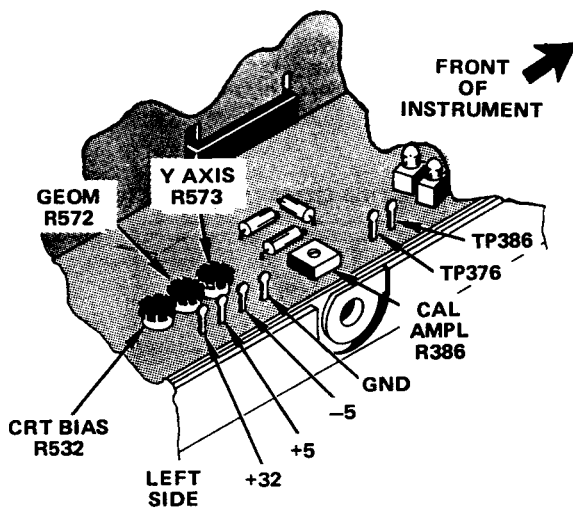
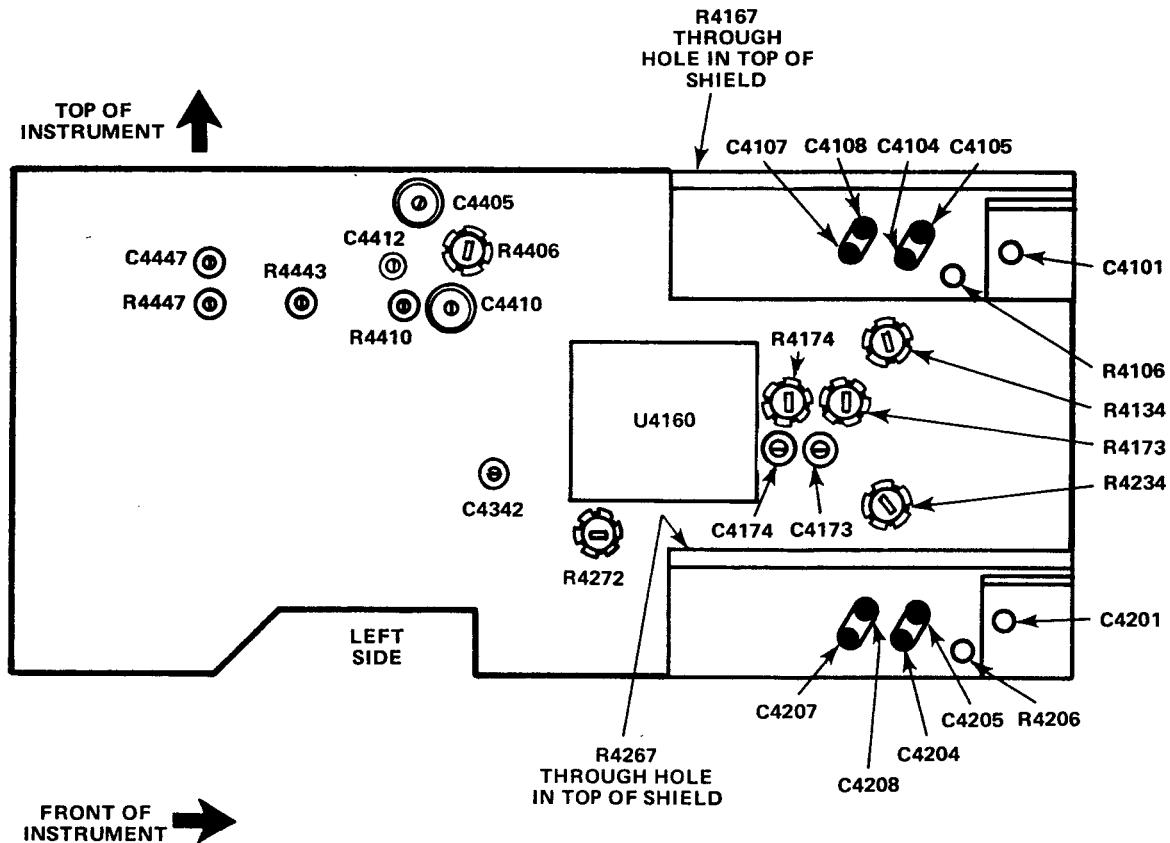

Figure 5-18. Crt and Calibration test point and adjustment locations.
Figure 5-19. Vertical adjustment locations.
(2) Set INTEN for a low intensity display.
(3) Connect a test oscilloscope between TP527 and GND with a 10X probe. Set test oscilloscope TIME/DIV for 2  $\mu$ s, adjust for a four division, positive going pulse display, and reset test oscilloscope TIME/DIV to 1  $\mu$ s.
(4) Adjust C515 and C516 for the squarest front corner on the displayed pulse.
(5) Disconnect the test oscilloscope.
**e. Y-Axis Alignment (Figure 5-18).**
(1) Set A AND B TIME/DIV to 1 ms and CH 1 AC-GND-DC to GND.
(2) Vertically position the display to the center horizontal graticule line.
(3) Adjust TRACE ROTATION to align the trace with the center horizontal graticule line.
(4) Set CH 1 AC-GND-DC to DC.
(5) Connect a time mark generator to CH 1 input through a 50 ohm BNC cable and 50 ohm termination. Set the generator for one millisecond time marks.
(6) Set CH 1 VOLTS/DIV for a display of greater than 8 divisions. Adjust vertical POSITION to place baseline of display below the bottom graticule line.
(7) Set A AND B TIME/DIV, its associated VAR control, and horizontal POSITION for exactly one time mark per division.
(8) Adjust Y AXIS, R573 to align the center time mark with the center vertical graticule line.
(9) Continue to the next procedure.
**f. Geometry (Figure 5-18).**
(1) Readjust TIME/DIV VAR and horizontal POSITION for one time mark per division.
(2) Adjust GEOM, R572 for minimum bowing of time marks.
(3) Reset TIME/DIV VAR fully clockwise in its detent.
(4) Disconnect the time mark generator.
**g. Calibrator (Figure 5-18).**
(1) Connect a digital voltmeter to the CALIBRATOR output.
(2) Connect a shorting jumper between TP376 and TP386 (a small alligator clip works nicely).
(3) Adjust CAL AMPL, R386 for a 1.00 volt reading.
(4) Remove the shorting jumper from TP376 and TP386.
(5) Disconnect the voltmeter.
**h. Dc Balance (Figure 5-19).**
(1) Set CH 1 and CH 2 VOLTS/DIV to 5 m (1X window) and A AND B TIME/DIV to .2 ms.
(2) Adjust CH 1 vertical POSITION to vertically center the trace.
(3) Adjust R4134 for no trace shift when switching CH 1 VOLTS/DIV between 5 m and 10 m.
(4) Set VERT MODE to CH 2.